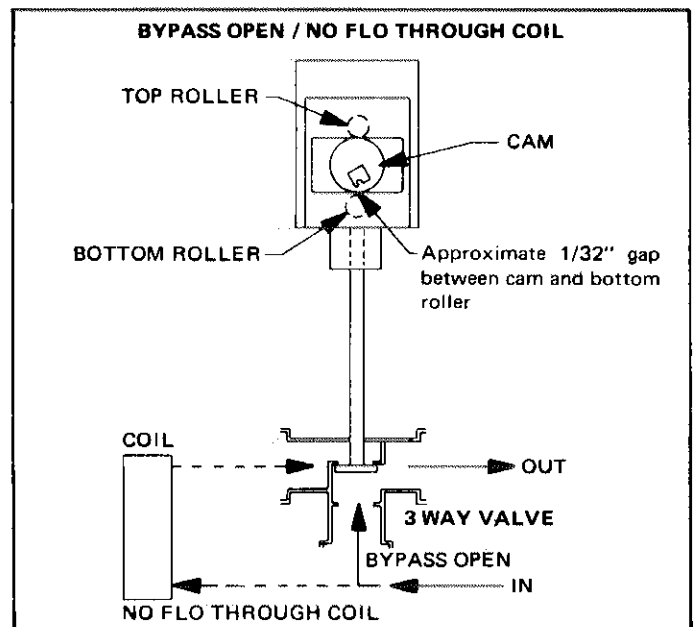

FIGURE 80
- 2 - Remove wire from terminal 2 of chilled water relay (K69). Connect jumper across C and F terminals on motor. Motor should rotate clockwise lifting valve stem. Refer to Figure 80.